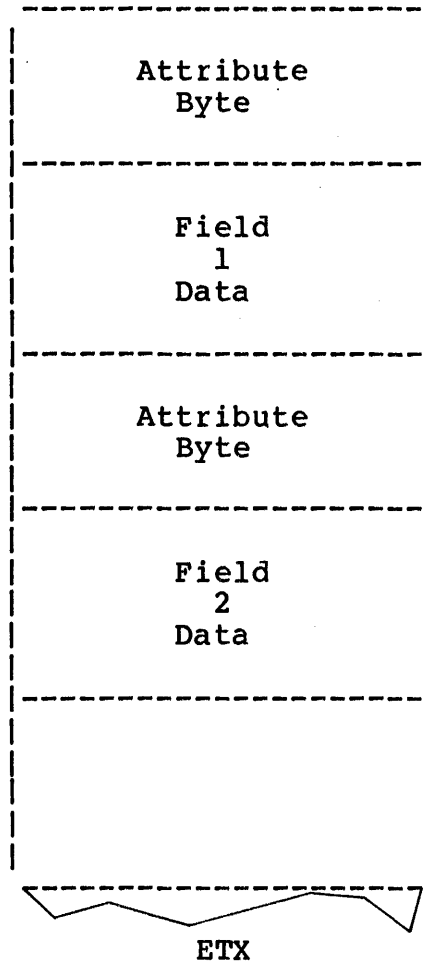

Figure 5-7 Read All with Attribute Character Truncated
2. Read All with Attribute Character Truncated. The terminal manager throws away the ESC ! (X'1B',X'21') received and sends the following character (by setting the parity bit) as an attribute character. There is no specific format for the data in the user buffer. All characters except ESC ! are sent into the user buffer. The data format is illustrated in Figure 5-7.